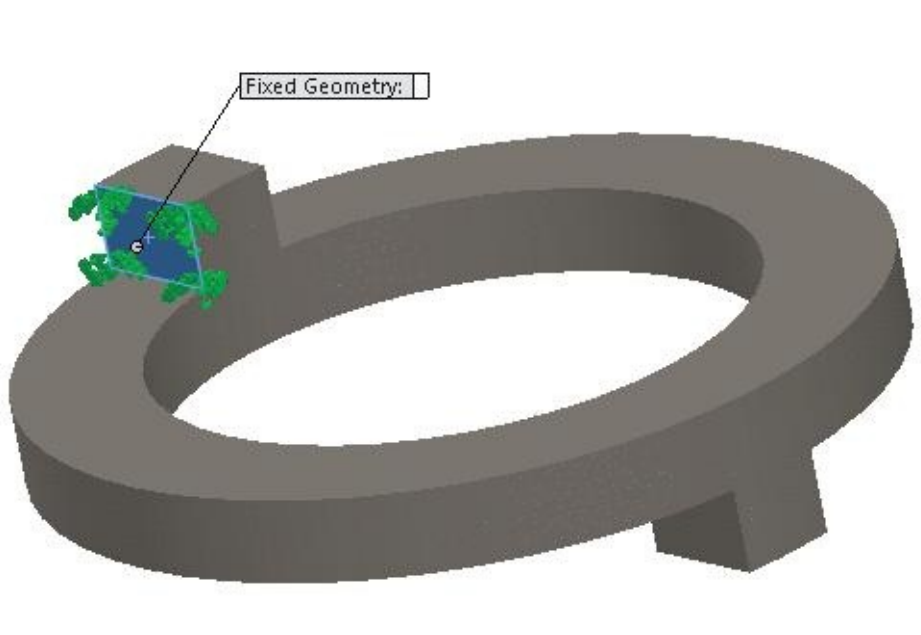

Figure-26. Face selected for fixture
- Select the faces as shown in Figure-26. Click on the **OK** button to apply fixture.